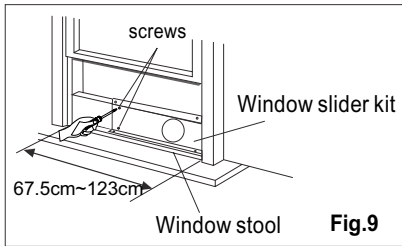

Fig.9
2. Open the window sash and place the window slider kit on the window stool (Fig.9). Attach the window slider kit to the window stool. Adjust the length of the window slider kit according to the width of window. Screw down the two screws on the window slider kit. See Fig.9.